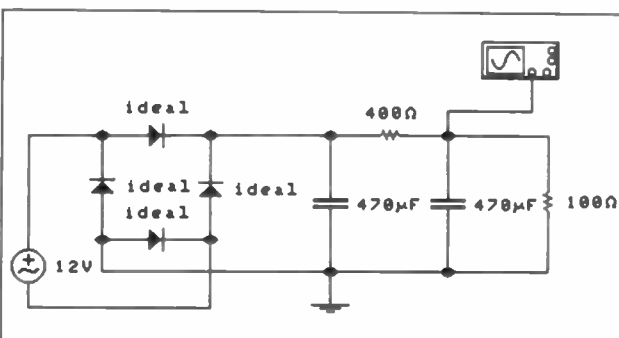

Fig. 3.33 Bridge rectifier with R-C smoothing filter.
7. Next, add an R-C filter to the circuit by connecting a 400Ω resistor in series with the d.c. output from the bridge rectifier and a second 470μF capacitor in parallel with the output (Fig. 3.33). Once again, note the shape of the output waveform and record the peak-peak ripple voltage in Table 3.4.